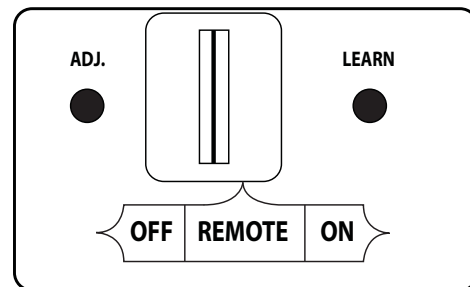

Fig. 13-2 Remote receiver (OFF for Manual Light)
1. Ensure the pilot is burning. If equipped, locate the 3-position switch on the remote receiver (see Fig. 13-2), and slide the switch to the **OFF** position.